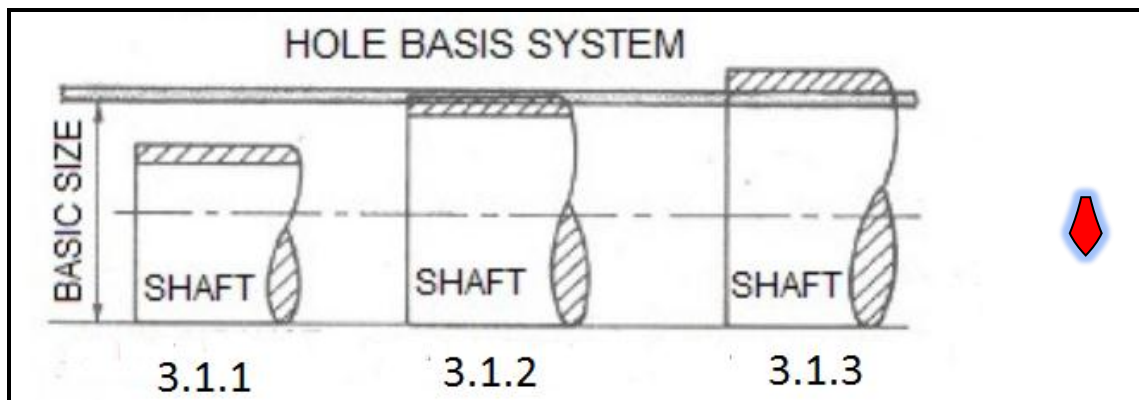

FIGURE 2
3.1 FIGURE 2 below shows a limit system known as a hole basis system. Categorise the types of fits shown in FIGURES 3.1.1 to 3.1.3 below.